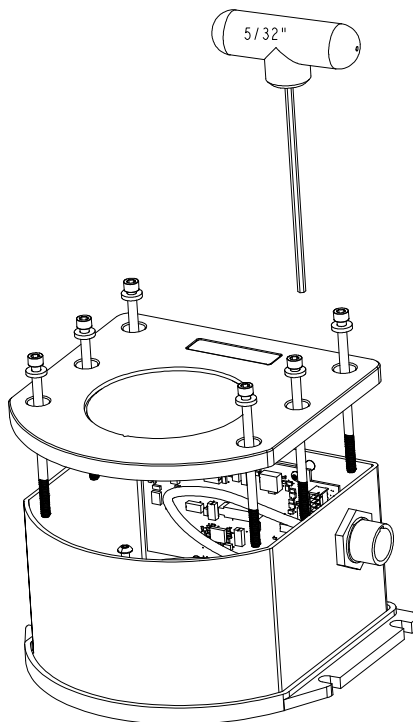

Figure 57: Bolts and Hex Key
1. Remove the top cover's six bolts using a hex key, as shown in *Figure 57*:
Use a hex key to align the long bolts with the threaded holes in the base, as shown in *Figure 57* on *page 361*. Apply threadlock to threads. Finger tighten all bolts and torque them in a cross pattern to 12 in-lbs. The fully assembled IMU enclosure is shown in *Figure 63*.